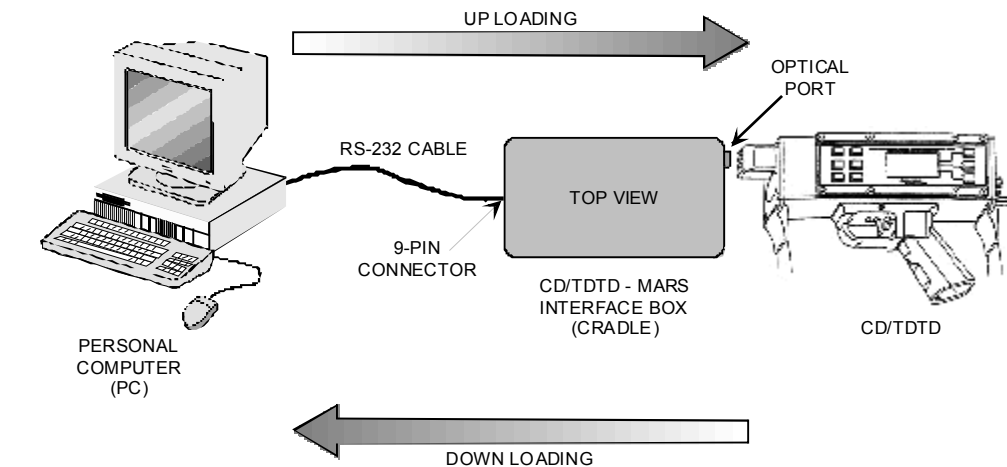

Figure 2-2. Uploading/Downloading Configuration
2.5.3 Uploading Setup Information from MILES After-Action Review System (MARS). (See Figures 2-2 and 2-3.)
2.5.6.4 Downloading Events to the MARS PC. (See Figure 2-2 and 2-3.)